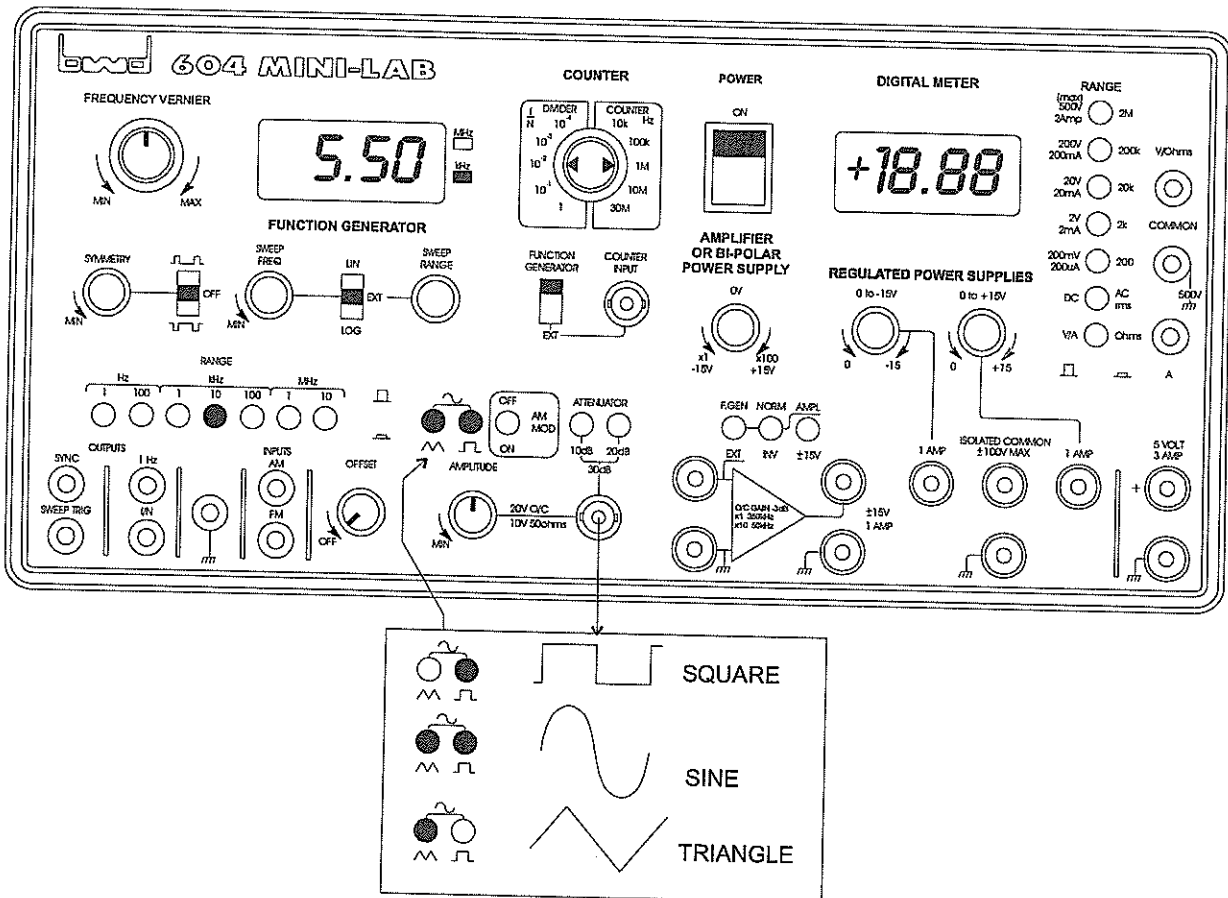

Fig 4.1 Operation of the Function Generator
16. Waveform Selector switches. Both switches out, output waveform is sinusoidal. Left hand switch only pressed in, output waveform is triangular. Right hand switch only pressed, only waveform is rectangular. (See Fig 4.1)